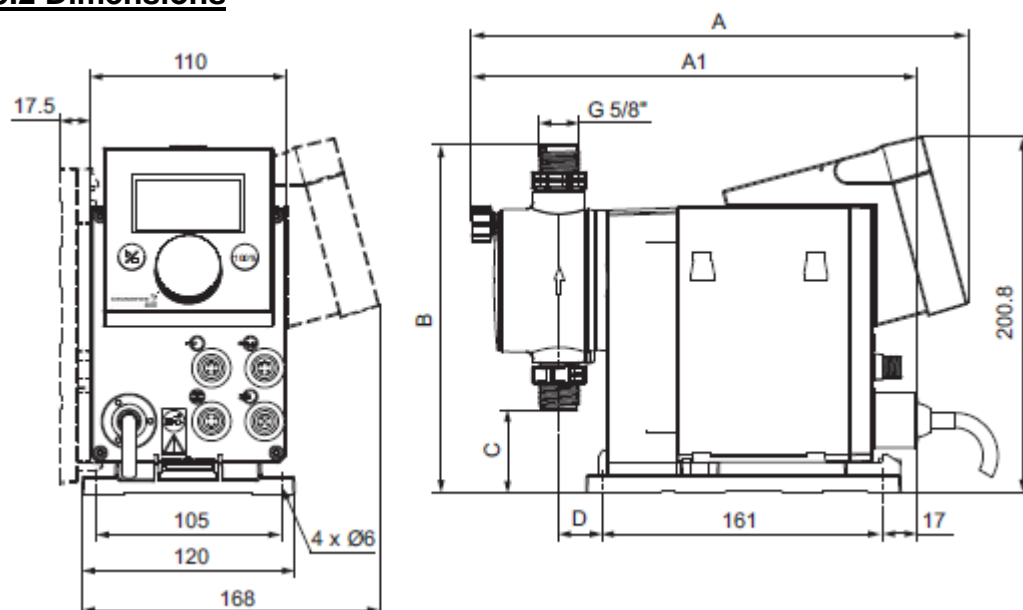

Fig.4 Dimensional drawing
- The mounting plate can be used as a drill template, please see fig. 4 for drill hole distances.